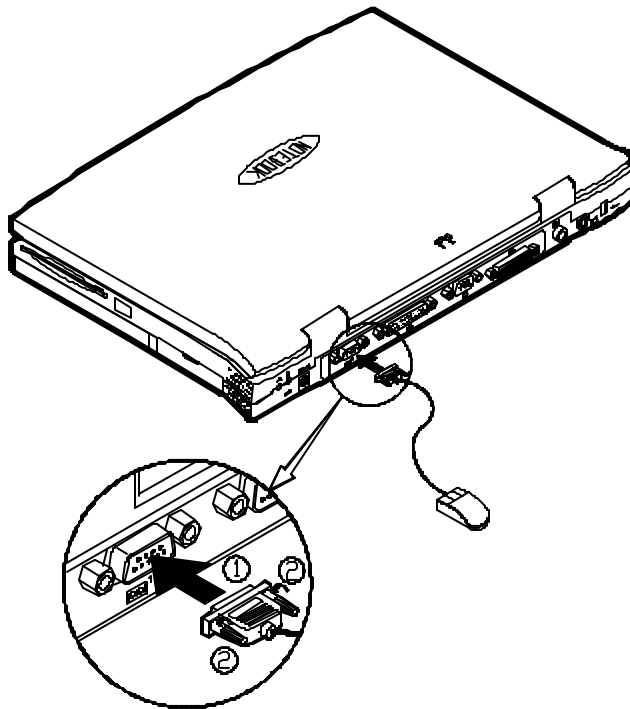

Figure 2-21
2. Connect the cable to the serial port on the rear of the Notebook Computer (Step 1 in Figure 2-21).
3. Tighten the screws that fasten the cable to the serial port (Step 2 in Figure 2-21).